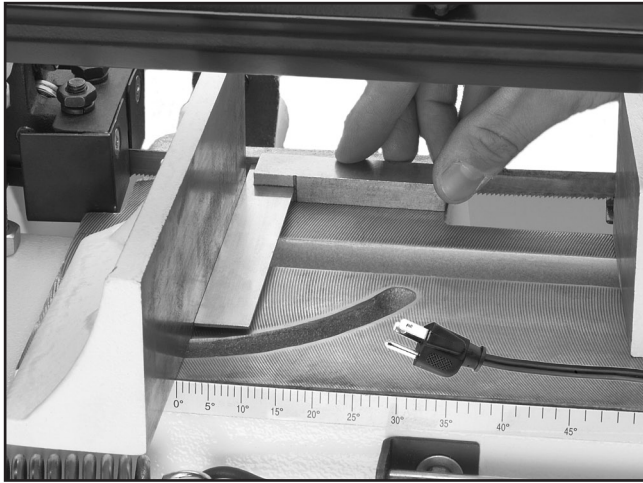

Figure 23. Squaring vise to blade.
2. Use the scale as a guide to set your angle or use a machinist square to square the blade to the vise as shown in **Figure 23**.